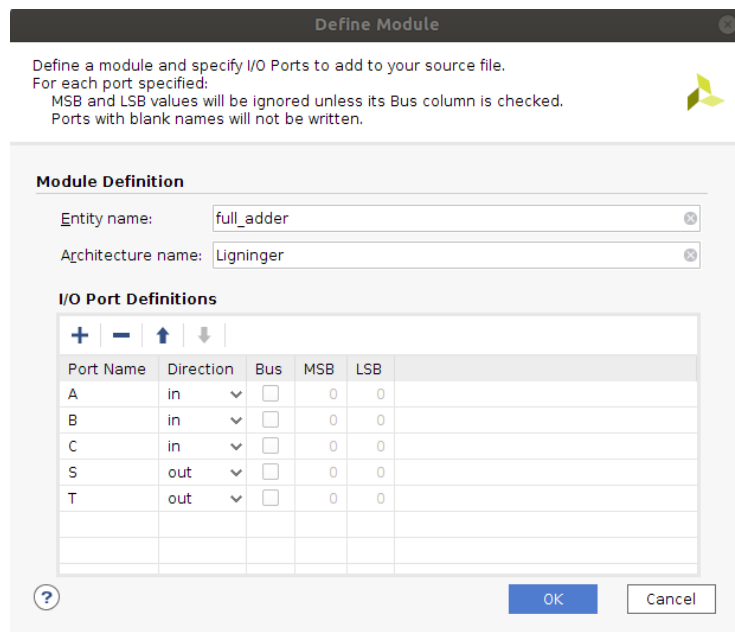

Figure 9 Defining the full adder module
4. A wizard popup as shown in Figure 9 is displayed that allows you to optionally define the ports of our newly created file. You can either skip this step by pressing “OK” or complete the form by defining the ports of your design and press “OK”.